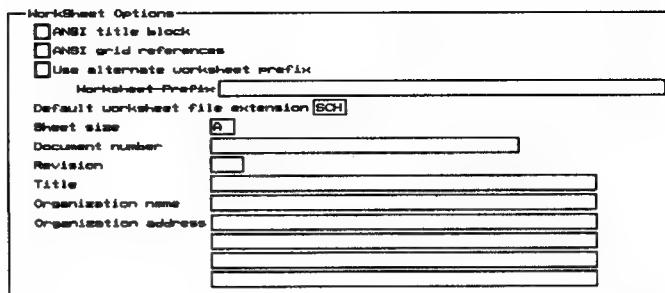

Figure 2-8. Worksheet Options area of the Configure Schematic Design Tools screen.
3. Scroll to the Worksheet Options area (figure 2-8).